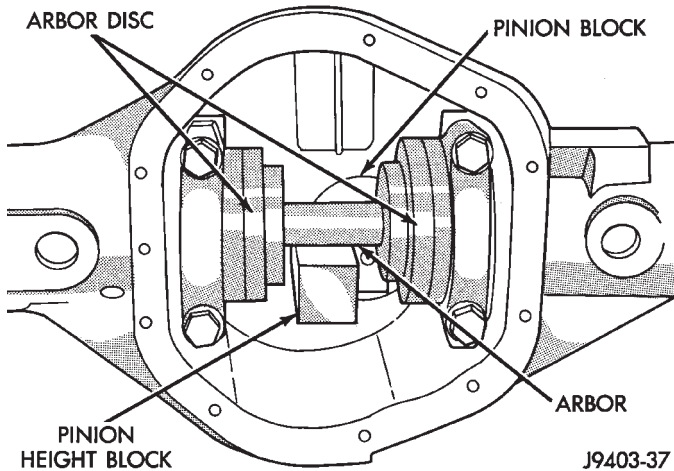

Fig. 44 Gauge Tools In Housing—Typical
(4) Place Arbor Disc 6927A on Arbor D-115-3 in position in axle housing side bearing cradles (Fig. 44). Install differential bearing caps on Arbor Discs and tighten cap bolts. Refer to the Torque Specifications in this section.